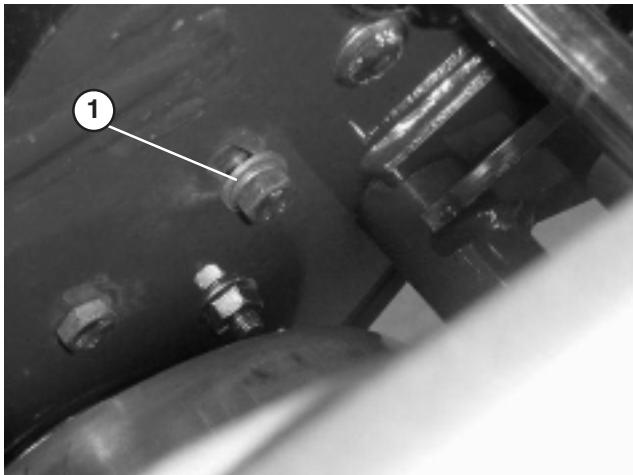

Figure 46
A. On back side of side plate, loosen the capscrew securing the idler bracket to the side plate (Fig. 46).